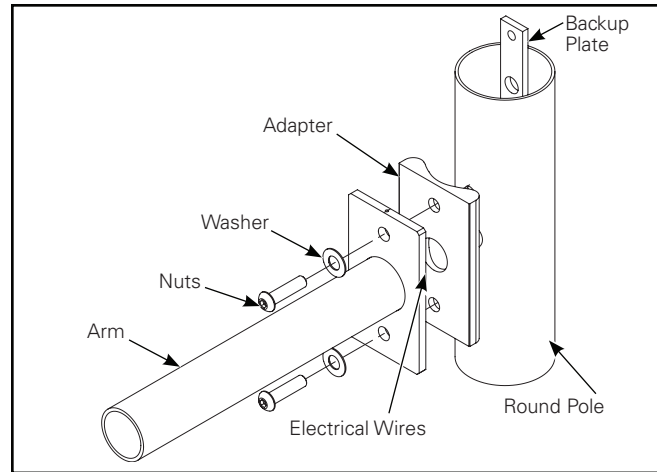

Figure 8.
### Straight Arm (Figure 8)
2. For round poles only - Install round plate adapter with round side facing pole (Figure 8). Align holes top and bottom.